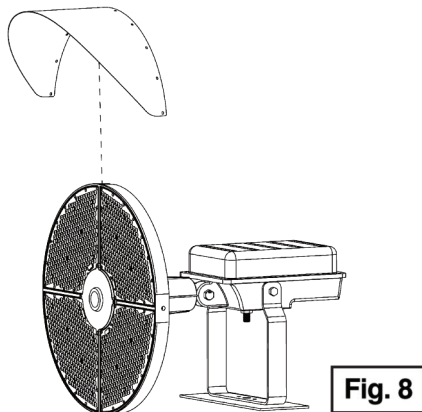

Fig. 8
- 1.) Place the round visor on top of the fixture as shown in **Fig. 8**. Secure in place with screws.